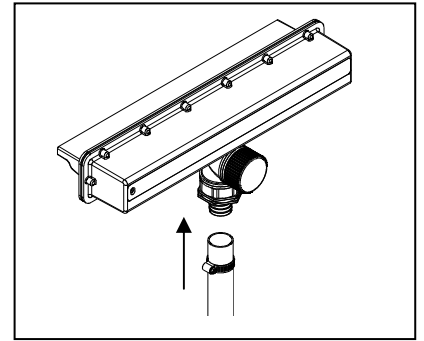

**Fig. 4**
4. For maximum water flow, cut the adapter as shown using a hacksaw. Fig. 4